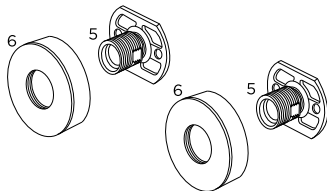

Fig.4
8. Screw the covers (6) over the wall plates / fixing bridges (5), so they are flush against the finished wall surface (See Fig.4).